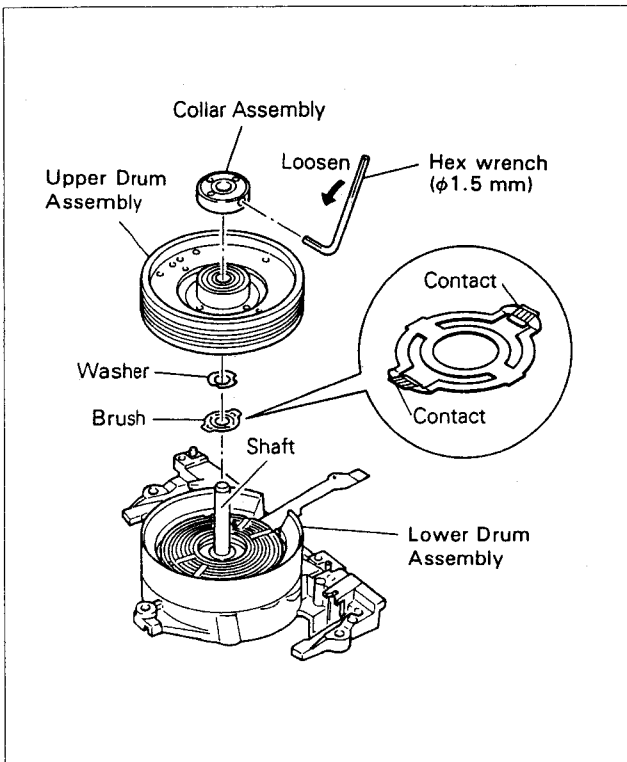

Fig. 2-6-5 Upper drum assembly-1
- 2) Set a new Washer and Upper Drum Assembly on the Drum shaft (see Fig. 2-6-5).